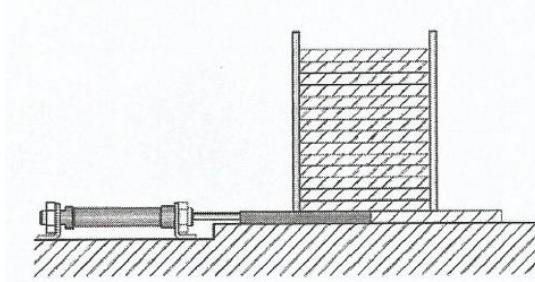

Figure 1
- (b) Figure 1 shows a wooden board is to be pushed by a double acting cylinder from a stacking magazine into an assembly device. Pushing the button will cause a wooden board to be pushed out of the staking magazine where the sensor is placed at the forward end position of the cylinder. Once the forward end position is reached, the slide return to its initial position. Using **double acting** cylinder and 5/2 DCV **single solenoid** valve, develop a pneumatic and electrical circuit diagram.